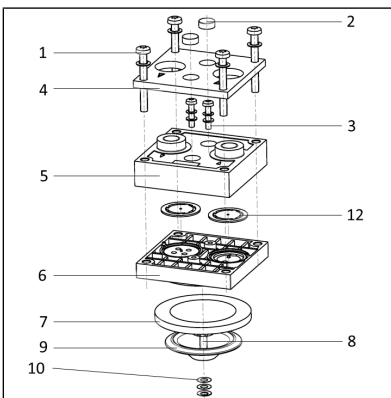

Fig. 5 Replacing the structured diaphragm
4. Loosen the four screws (Fig. 5/1) and remove the pressure plate (Fig. 5/4).
5. Remove the screw covers (Fig. 5/2); loosen the two screws (Fig. 5/3) and remove the head plate (Fig. 5/5) and the intermediate plate (Fig. 5/6).